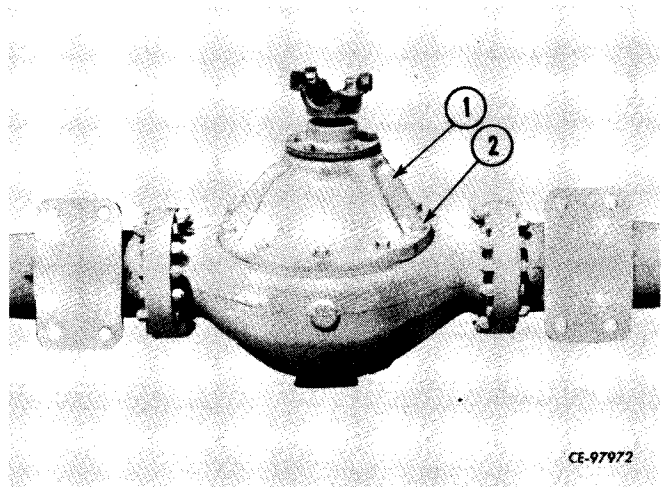

Figure 6-14
Position a new gasket on differential housing and lower differential assembly (1, Fig. 6-14) into housing. Coat retaining cap screws threads (2) with "MAR-SEAL" or equivalent sealant and install with lock washers. Tighten to recommended torque (refer to "SPECIAL TORQUES").